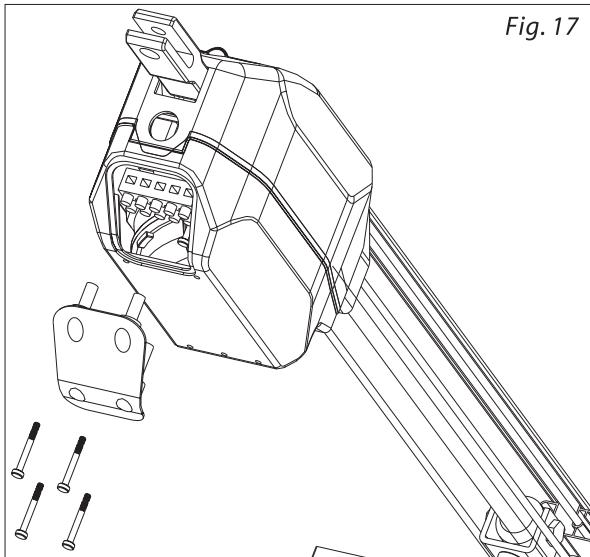

Fig. 17
1) Move the terminal cover and bottom cover, fit the supplied cable gland (Fig.17 & 18)